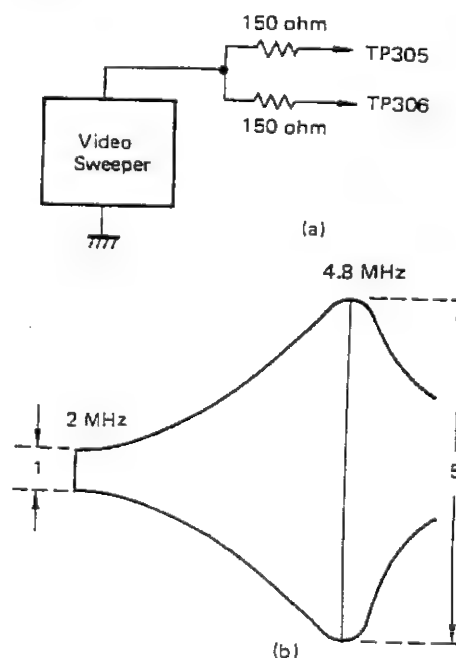

Figure 41
2. Connect the output of a video sweeper to TP-305 and TP-306. See figure 41 (a).
4. Then proceed with the adjustment, looking at figure 41 (b).
- 2) Adjust the V-gain control of the oscilloscope so that the 2 MHz zone of the resultant waveform will be shown in Fig. 41 (b). Consider this zone to be 1 (a reference value).